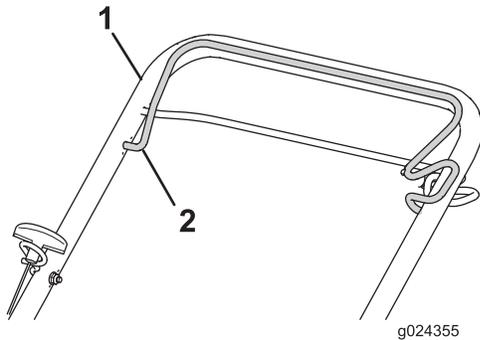

Figure 15
3. Hold the blade-control bar against the upper handle (Figure 15).